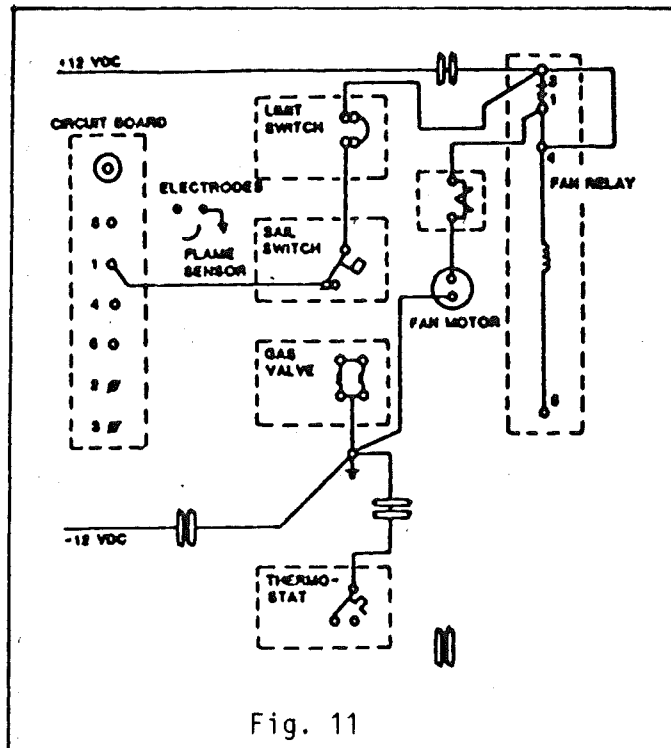

Fig. 11
- G. When the temperature of the RV rises above the thermostat set temperature, the thermostat will open and disconnect the -12 VDC to terminal #5 of the fan relay. Then the gas valve will close and the fan relay contacts will open, after a cool down period of 1 to 2 minutes for the heat in the fan relay coil to be extracted. See Fig. 11.